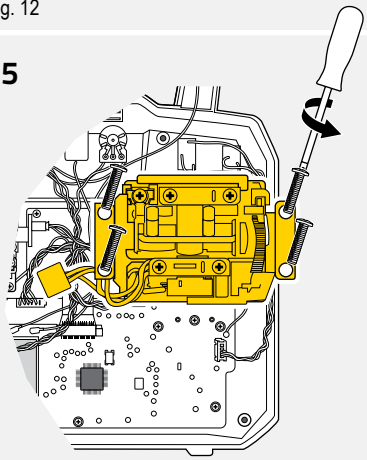

Fig. 15
6. Remove the 4 screws that hold the throttle stick in place (see [Fig. 15]).